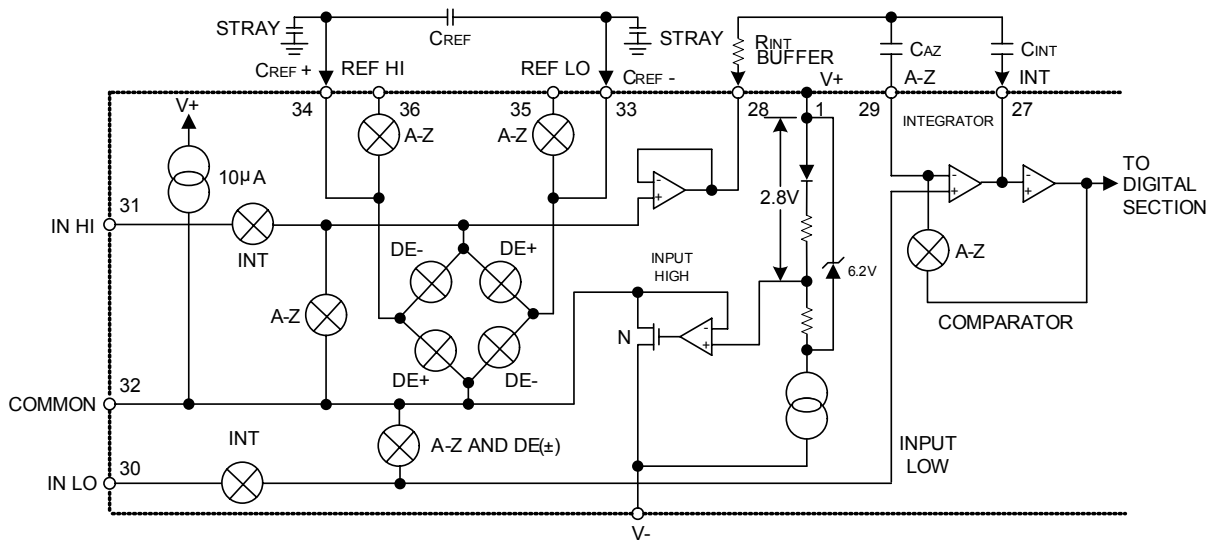

Figure 1. Analog Section
■ ELECTRICAL CHARACTERISTICS (Ta=25 , f_{CLOCK}=48kHz, measured by the circuit of Figure 1.)
Figure 1 shows the Analog Section for the UTC **7106**. Each measurement cycle is divided into three phases. They are (1) auto-zero(A-Z), (2)signal integrate (INT)and (3)de-integrate(DE).